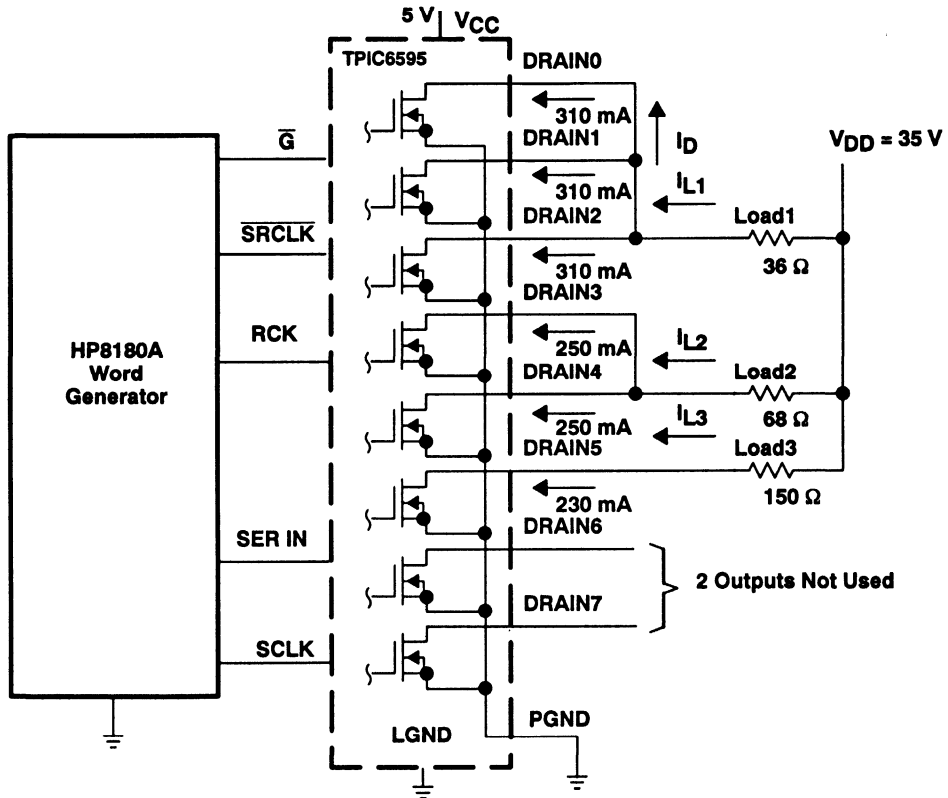

Figure 6. Parallel Operation of Output Switches for Extended Current Capability
If all eight output switches are not needed for an application and a continuous output load current greater than 0.25 A is required, the switches can be connected in parallel for extended current capability. The current-sharing capability of the switches is demonstrated in a circuit while operating at $T_A = 40^\circ\text{C}$ (see Figure 6). The individual switch current, I_D , is determined by equation (5).